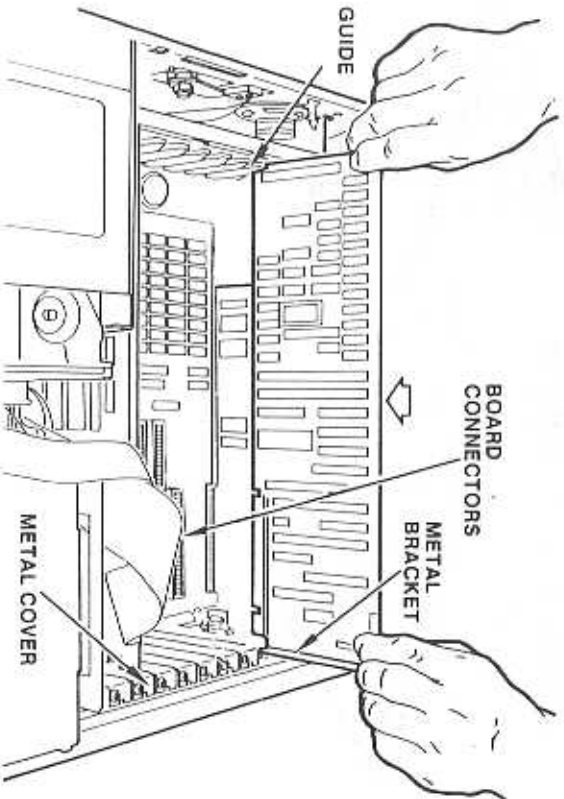

Figure 2-6. Board Handling and Insertion
When you insert or remove a board, hold it only by the edges. Do not touch any of the component parts or wires, since any foreign substance on your fingers might introduce electrical shorts on the board. Figure 2-6 illustrates the recommended method of holding a board.
Figure 2-6 also illustrates the connector panel where the board is attached; the guide for the other end of the board, the system board connectors into which the boards are inserted, and the metal slot covers on the connector panel. The metal slot cover is removed when you install a board.
2. Align the board between the guide on the front of the system unit and the slot on the connector panel on the rear (see Figure 2-6).
4. Lift the board free of the guide (Figure 2-6) and remove it from the system unit.